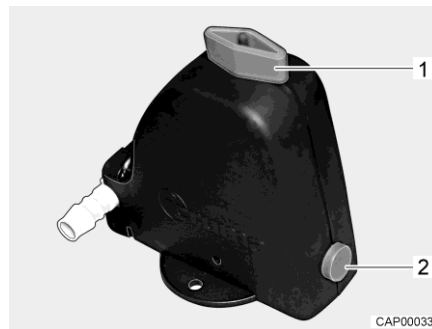
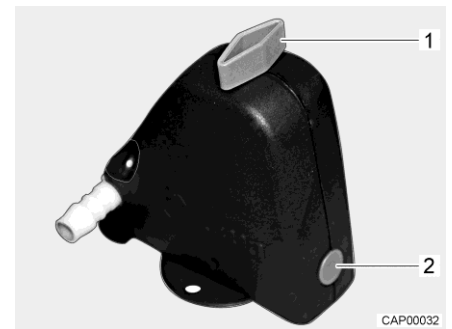

Fig. 93 Safety/drainage valve open
Fig. 94 Safety/drainage valve closed
- Close the safety/drainage valve. Turn the knob (Fig. 93,1) perpendicular to the safety/drainage valve and push the push button (Fig. 93,2) in. The closed safety/drainage valve is shown in Fig. 94. If the temperature is below 6 °C, the safety/drainage valve cannot be closed.